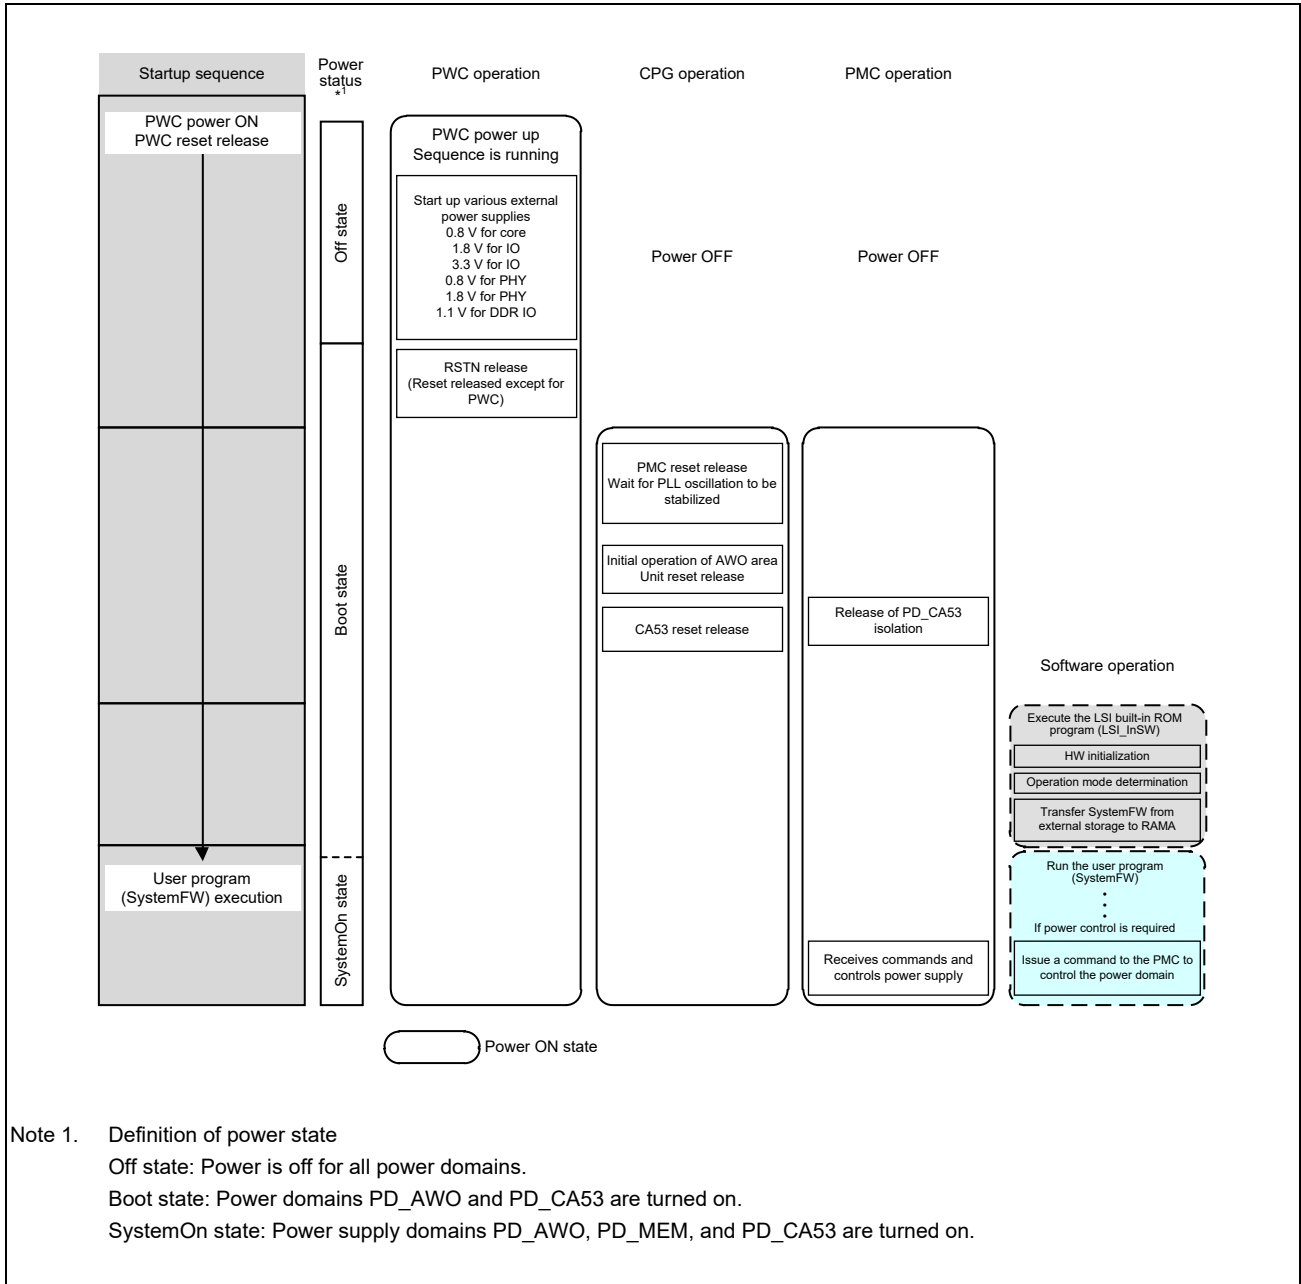

Figure 9.1-1 Startup Sequence Outline
**Figure 9.1-1** shows the operation of the individual units in the system startup process.